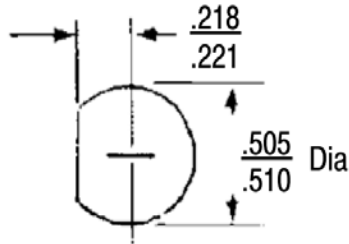

Figure 10
1. The bulkhead jack adapter can be mounted to the panel using the cutout shown in Figure 10.
3. Insert the bulkhead jack adapter through the hole in the panel. See Figure 10.